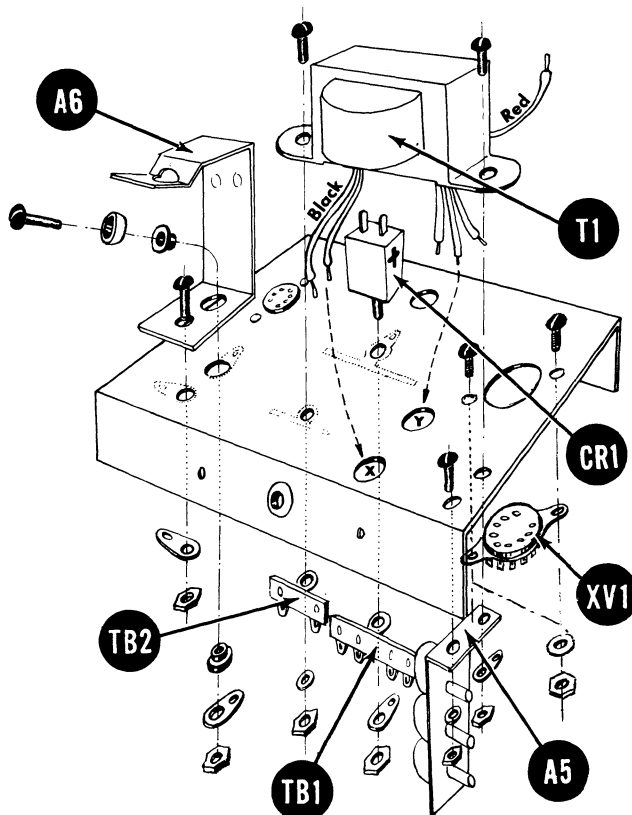

Fig. 2
- (✓) Fig. 2. Mount the 9 pin miniature socket, XV1, with 2 each #4-40 screws, #4 hex nuts and #4 washers. See Fig. 3 for keyway location.
- (✓) Fig. 2. Mount the 7 pin miniature socket, XV2, with 2 each #4-40 screws, #4 hex nuts, and #4 washers. A one post left terminal strip, TB3, is mounted with XV2. See Fig. 3 for location.
- (✓) Fig. 2. Insert 3/8" rubber grommet for line cord in hole in center of rear chassis apron.
- (✓) Fig. 2. Mount the selenium rectifier CR1 with a 6/32 hex nut. Position the 4 post terminal strip TB1 and the ground lug under the nut as shown.
- (✓) Fig. 2. Mount the battery clip A6 with a 6-32 X 1/4 screw and a 6-32 hex nut. Position gnd. lug under nut as shown. Line up the two empty holes before you tighten nut.
- (✓) Fig. 2. Mount the cup washer to the battery clip. Use a 6-32 X 1/2 screw, two #6 shoulder fiber washers and a 6-32 hex nut. Position a #6 ground lug under nut as shown.
- (✓) Fig. 2. Mount the pre-assembled potentiometer bracket A5 to the chassis. Use a 6-32 X 1/4 screw, a #6 lockwasher and a 6-32 hex nut. Line up two empty holes before you tighten nut.
- (✓) Fig. 2. Mount the power transformer T1 to the chassis. Pass black leads thru hole "X" and the leads on the other side of the transformer thru hole "Y" except one red. Use two 6-32 X 1/4 screws, one #6 lockwasher and two 6-32 hex nuts. Place two post terminal strip TB2 as shown and under other hex nut position a #6 ground lug.